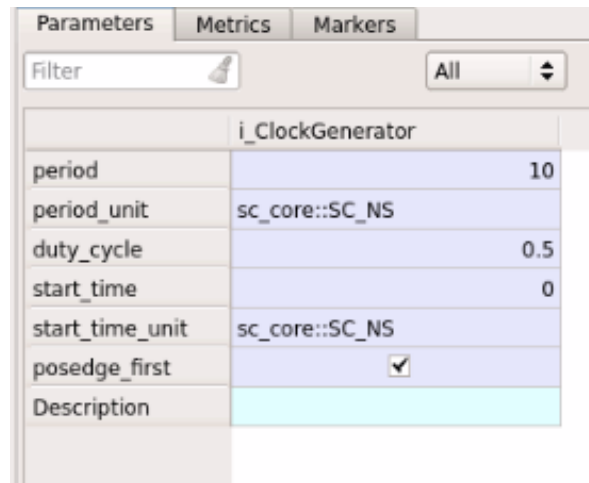

Figure 11: Clock Generator Properties
7. **Clock and Reset** The ClockGenerator module generates a configurable clock signal. Figure 11 shows the properties of generated clock.